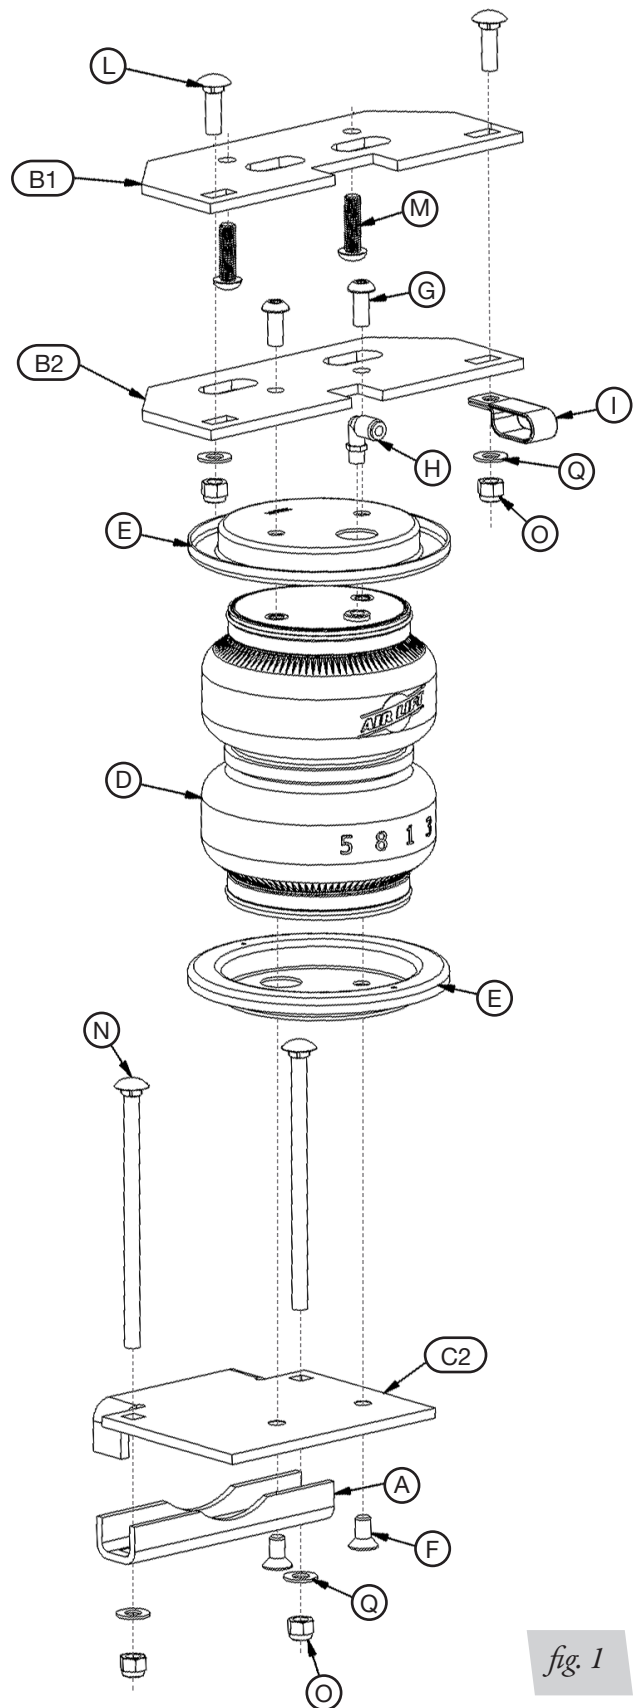

fig. 1
* These parts are not shown in the Installation Diagram (Fig. 1).
- Using the stock jounce bumper holes, attach the frame upper brackets (B1) to the frame using the button head screws (M) (Figs. 1 & 4) on both sides, and torque mounting hardware to 30 lb.-ft. (41Nm).
3. Attach the air spring upper bracket (B2) to the air spring with two 3/8"-24 button head screws (G) and torque to no more than 20 lb.-ft. (27Nm) (Figs. 1 & 8). Repeat for the other air spring.
5. Insert the long 3/8" carriage bolt (N) into the lower bracket (C1 & C2) using the round hole which corresponds to the tapered hole (that is closest to the edge of the bracket) (Figs. 1 & 9) so that it points in the same direction as the flanges that come off the bracket.
6. Attach the lower brackets with the carriage bolt and flanges mounted on the opposite side of the fitting, using the 3/8"-24 flat head screws (F) to the air spring assembly (Figs. 1 & 10). Torque to no more than 20 lb.-ft. (27Nm).
2. Raise the axle back up so the slots in the upper brackets line up with one another. Insert two short 3/8" carriage bolts (L) through the slots in the upper air spring and frame brackets (Figs. 1 & 13) from the top down.